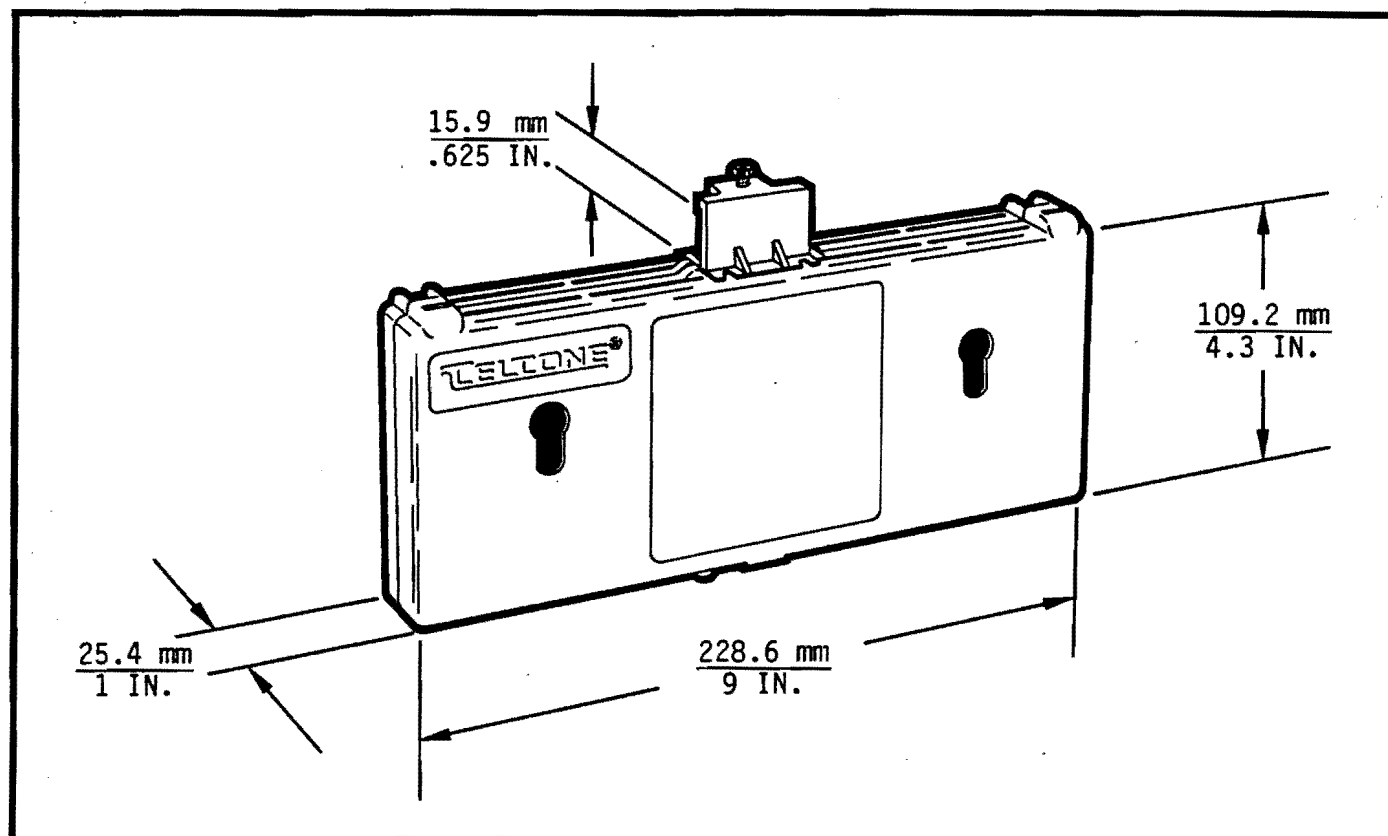

Figure 1 M-164 CONVERT-A-PAK
1.01 This technical practice describes the TELTONE® M-164-70, -71, -72, and -73 CONVERT-A-PAK™ Tone-to-Pulse Converters (Figure 1). Installation and troubleshooting procedures, specifications, and ordering information are included.
3.01 The M-164 CONVERT-A-PAK consists of the converter unit shown in Figure 1 and a cable assembly. Ordering details are given in Appendix 1.